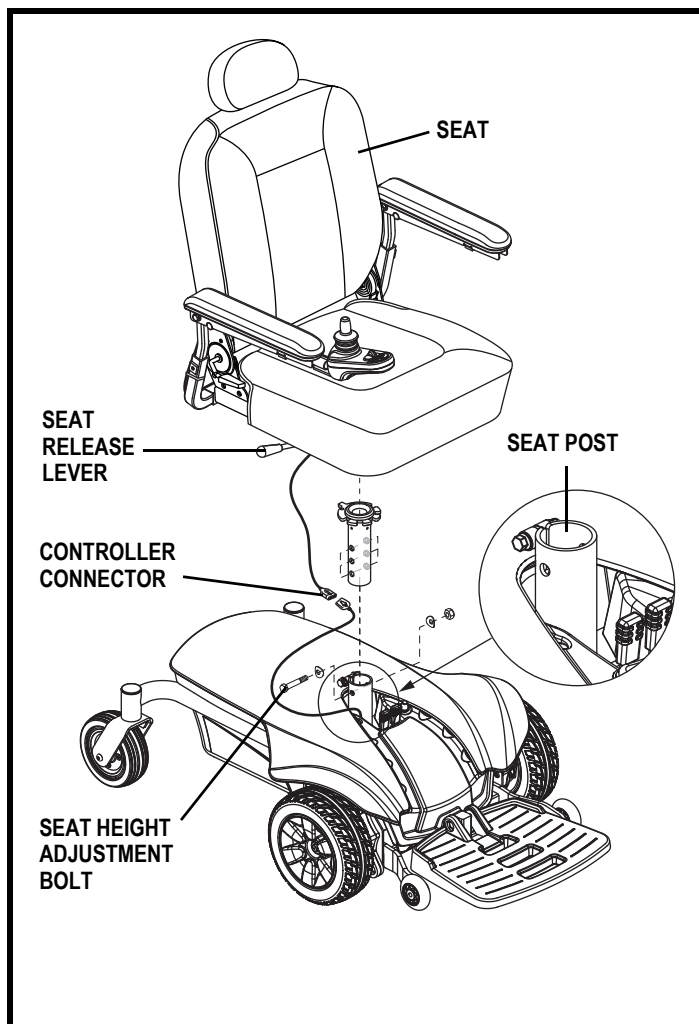

Figure 8. Seat Height Adjustment
3. Disconnect the controller connector from the power base. See figure 8.
4. Disengage the seat release lever. See figure 8.
6. Loosen the hardware at the rear of the seat post. See figure 8.
7. Remove the seat height adjustment bolt, washers, and nuts from the seat post. See figure 8.